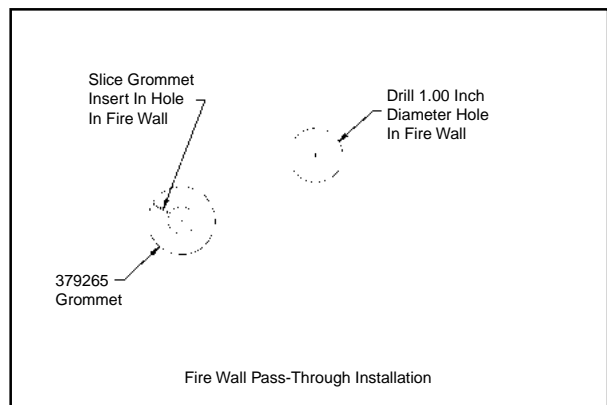

Figure13
4. To install the grommet in the drilled hole, slice the grommet and place it over the wires. **NOTE:** The grommet is included in the installation kit. Position the wires in the center of the grommet and insert it in the drilled hole (**Figure 13**).